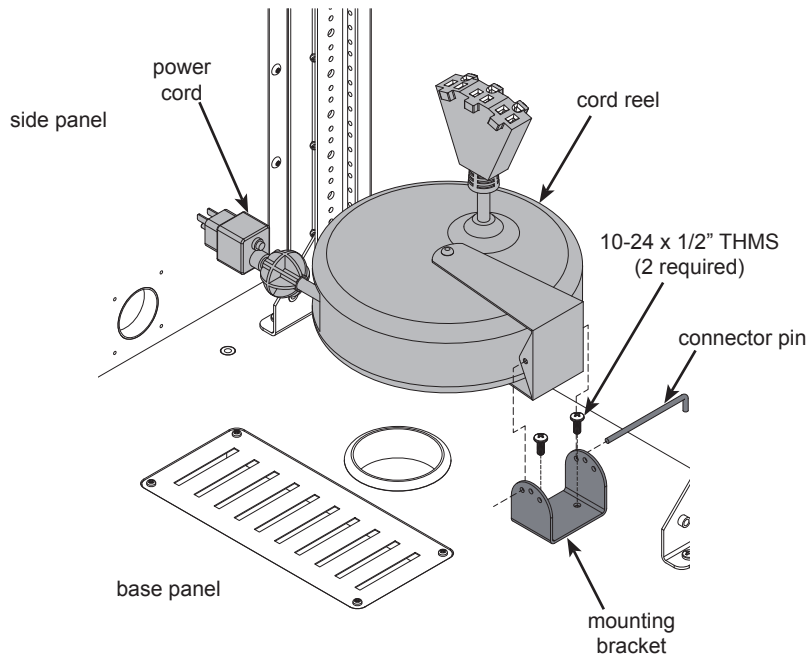

Figure 2A
2. Attach the mounting bracket to the base panel with (2) 10-24 x 1/2" THM screws. **Figure 2A.**